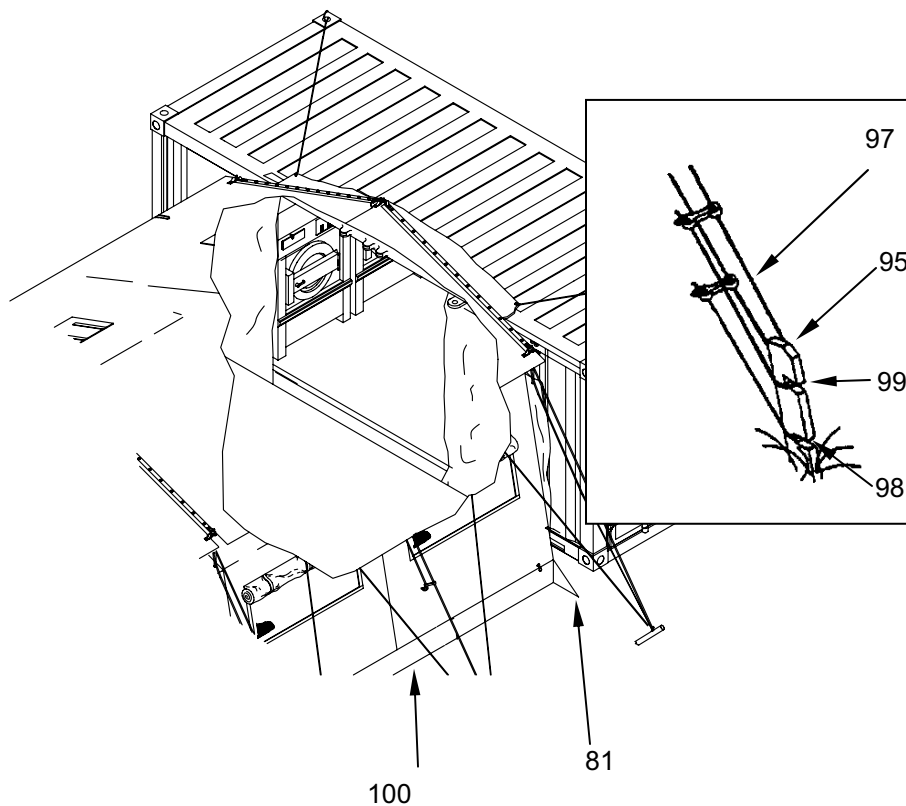

Figure 39. Stakes and Guy Lines.
1. Place a 24-in. wooden stake (**Figure 39, Item 95**) approximately 10 ft from the sides at the corners of the tent section at each eave extender and slant stake(s) towards tent.
2. Connect loop of eave extender guy line (**Figure 39, Item 96**) and ridge extender guy lines (**Figure 39, Item 97**) to bottom notch of wooden stake (**Figure 39, Item 98**).
3. Connect loop of fly guy line (**Figure 39, Item 99**) to top notch of wooden stake (**Figure 39, Item 95**).
4. Stake tent frame foot to ground using 12-in. steel pins (**Figure 39, Item 81**) through foot loops.
5. Stake foot loops (**Figure 39, Item 100**) to ground and tighten all guy lines.